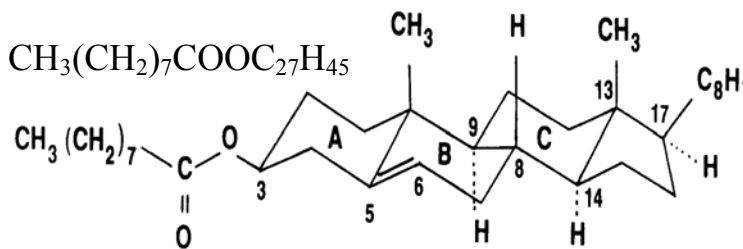

Fig. 5. Chemical structure of cholesteryl pelargonate
- 2) Show the bottle containing the blend of COC and CP. In their original forms, COC is a waxy, nearly clear chemical at room temperature, whereas CP is a white powder. The chemical structure of CP is shown in Fig. 5. We heated equal parts (by weight) of these chemicals to 100°C, melting them together to form the blend that is contained in the bottle. Each of these chemicals sells for ~\$1/gram. **Warming the bottle in your hand while speaking is a good idea!**